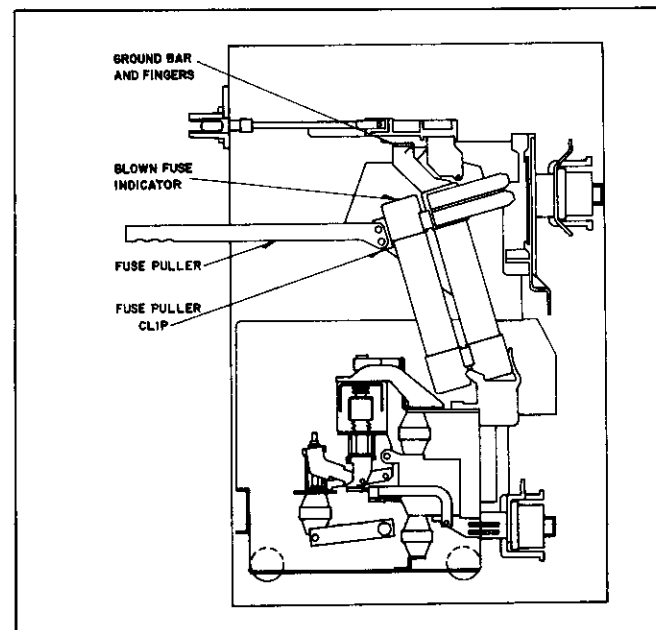

Fig. 6 Fuse Removal
**FUSES (See Figure 6).** The Power fuses should be inspected after each fault-clearing operation, since this is the most severe service to which they will be subjected. Visual indication of a blown fuse is provided by a colored indicator in the top of the fuse. This indicator pops up and is visible over the top of the contactor arc chutes when the fuse is blown.